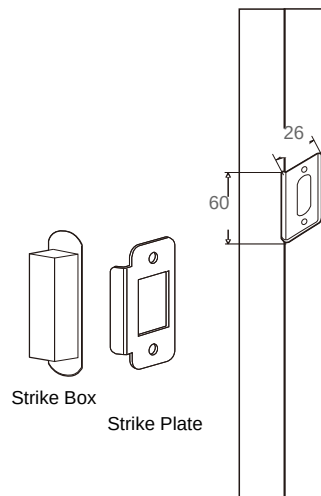

Fig. 2
1. Drill recess for strike box: depth 15mm, length 60mm (Fig. 2 & 3).
2. Strike plate: width 26mm, length 60mm (Fig. 2).